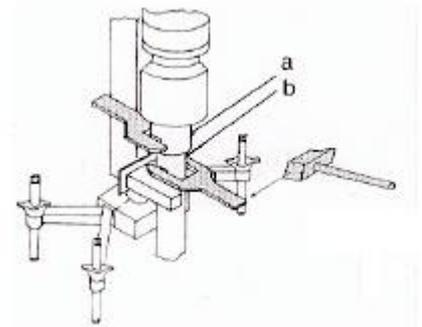

Figure 6
2. Insert the wrench supplied into the seat (a) of the output group and turn it against the column. This prevents the reducer from advancing and the rotating head from becoming damaged by counter-blows while changing the rods. (fig.6).
3. Insert the wrench supplied into the seat (b) of the hammer or rod and keeping the wrench contrasted in (a) against the column, release the hammer or rod by applying a few hammer blows to the wrench in the seat (b) (fig.6).